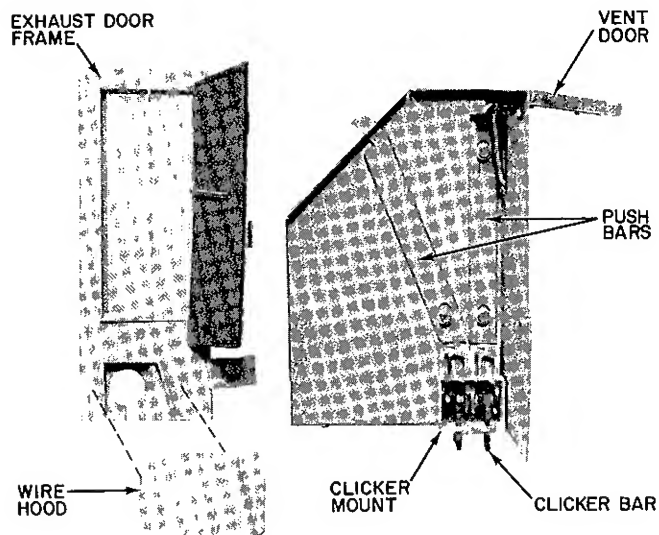

Fig. 31 — Vent Door/Wire Hood
35 Vent Door — See location of Vent Door in Fig 31
- c Remove wire hood by removing 2 screws See Fig 31
- c Cut interconnecting tubing and remove 2 screws securing condenser coil. Remove condenser orifice mounting screws (4)
- 44 **Vent and Exhaust Linkage** — See Vent and Exhaust Linkage in Fig 31
- f To remove push bars, remove screws and disassemble from discharge deck. See Fig 31